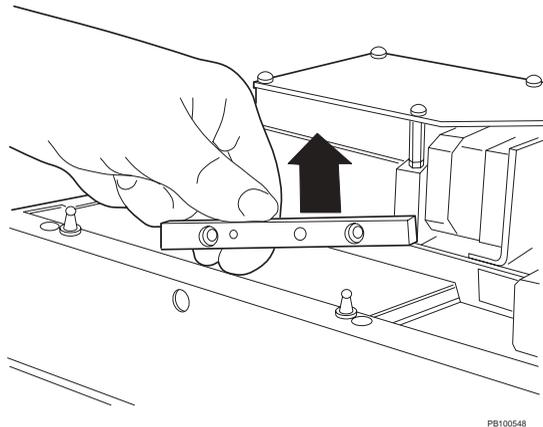

Figure 2-4 Removing the Transport Bracket
6. Remove the transport bracket from between the arm and the side of the AFC 2000 (Figure 2-4).